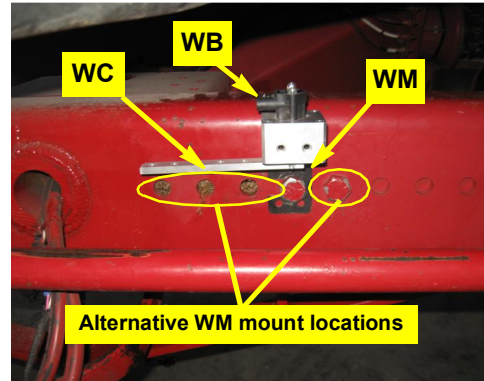

Figure 2b: WAS assembly installed
- b. On the rear face of the right side rear axle, locate and loosen the inner of the two center row track adjustment bolts and install bracket **WM** (Figure 2b - but see **Note** following). Mount **WM** so that its bends hold the WAS assembly away from the axle.
NOTE: Depending on the track width you are using, you may want to mount the WAS bracket on a different bolt. This includes the other center row bolt in the axle sleeve or any unused center row holes in the axle sleeve (see alternative **WM** mount locations in Figure 2b). Use hardware **WS** to mount the WAS bracket if using one of the previously unused holes.